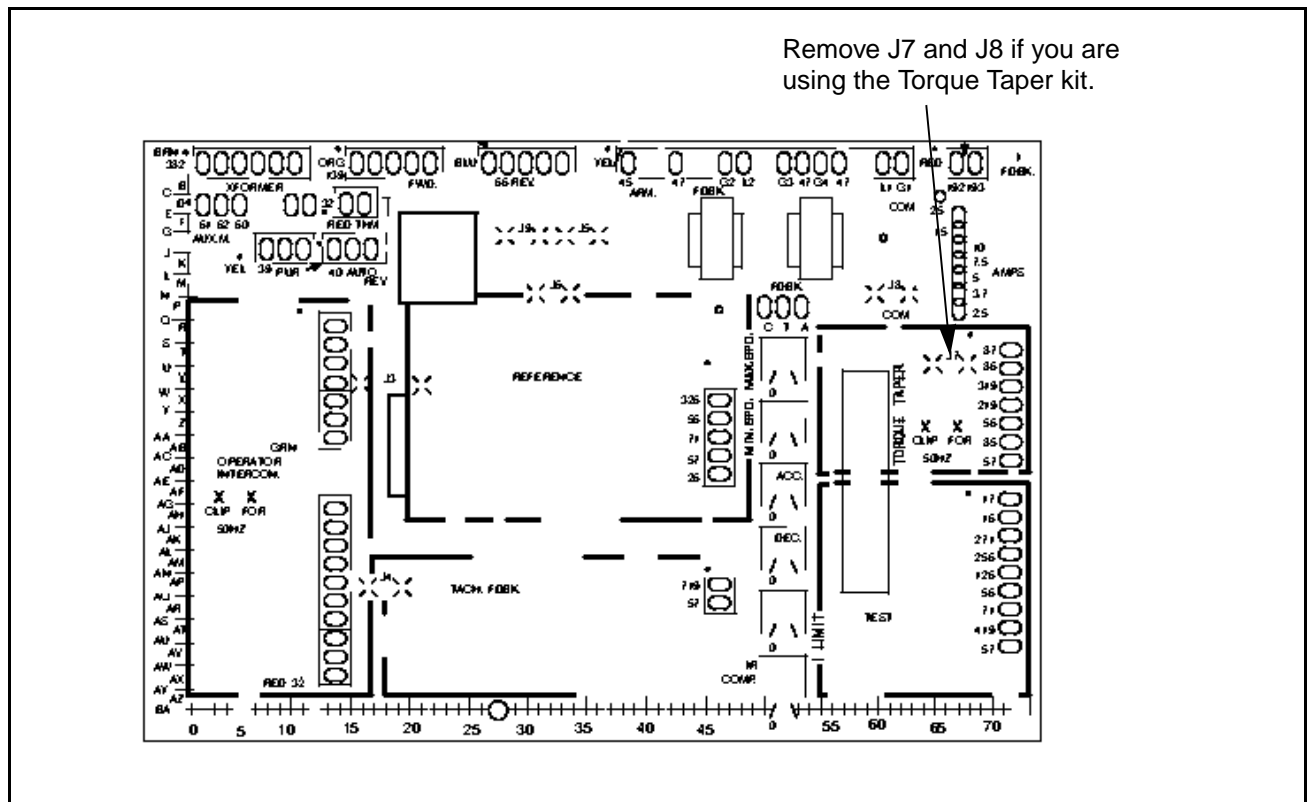

Figure 2 – Regulator Module Jumper Locations
- Step 3. Remove jumpers J7 and J8 on the Regulator module. See figure 2.